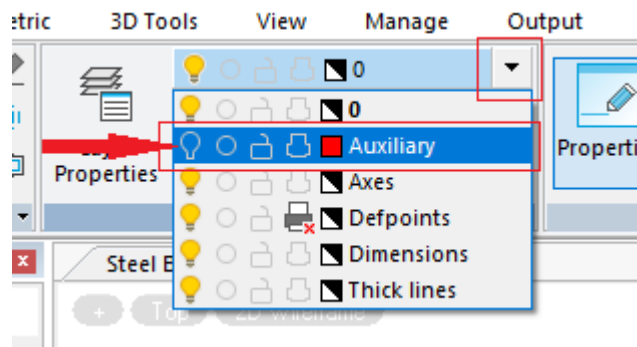

Fig. 6. Turn off the Auxiliary layer
5. Turn off the Auxiliary layer (fig. 6):